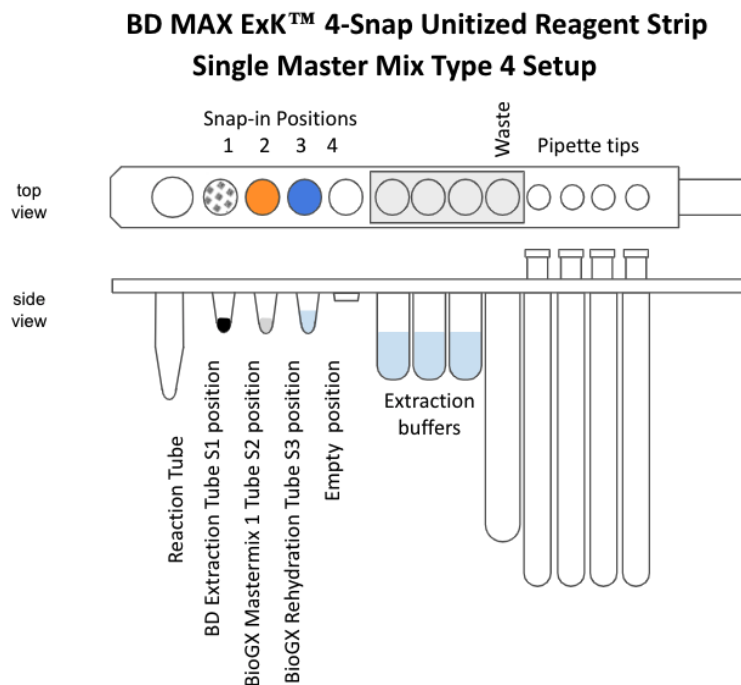

Figure 1 – Diagram of BD MAX™ ExK™ 4-snap Unitized Reagent Strips
4. Snap one BD MAX™ ExK™ DNA-3 Extraction Tube into position 1 (Snap-1) of each Unitized Reagent Strip (Figure 1).